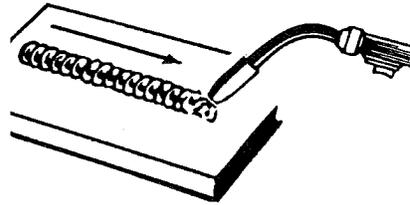

Figure 7. Stringer Weld Bead
1. The **STRINGER BEAD** (Figure 7) is formed by traveling with the gun in a straight line while keeping the wire and nozzle centered over the weld joint. This is the easiest type of bead to make and is the type you have been using up to this point.